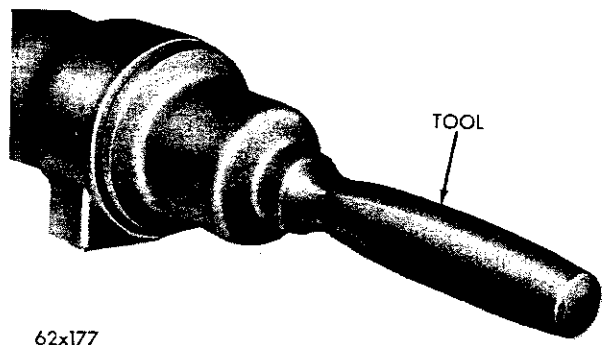

Fig. 34—Installing Output Shaft Oil Seal
(4) To install a new seal, position seal in the opening of the extension housing with lip of seal facing inward. Drive the seal into the housing with Tool C-3837 (Fig. 34).
(5) Install the transmission output shaft flange. Install washer with its three projections toward the flange and the nut with its convoluted surface con-
housing (lip of seal facing inward). Using Tool C-3837, drive the seal into housing until tool bottoms (Fig. 34).